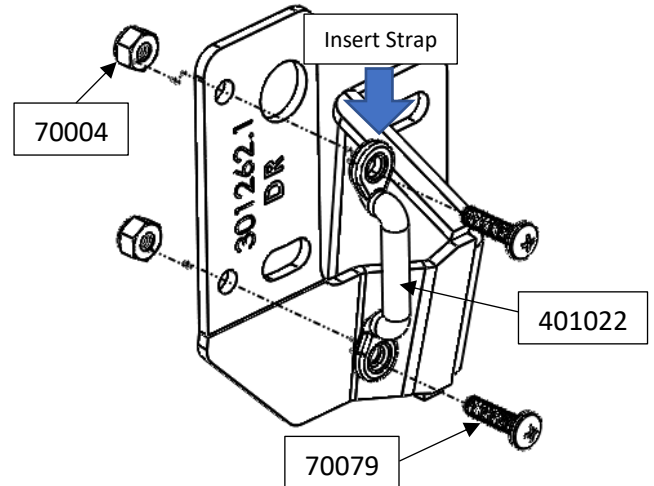

Figure 7: Installation of Webbing Anchor onto Bracket
- 21. Install the webbing anchor onto the lower hinge bracket. Be sure to first thread the anchor through the desired position on the adjustable strap (reference Figure 7 - 8).